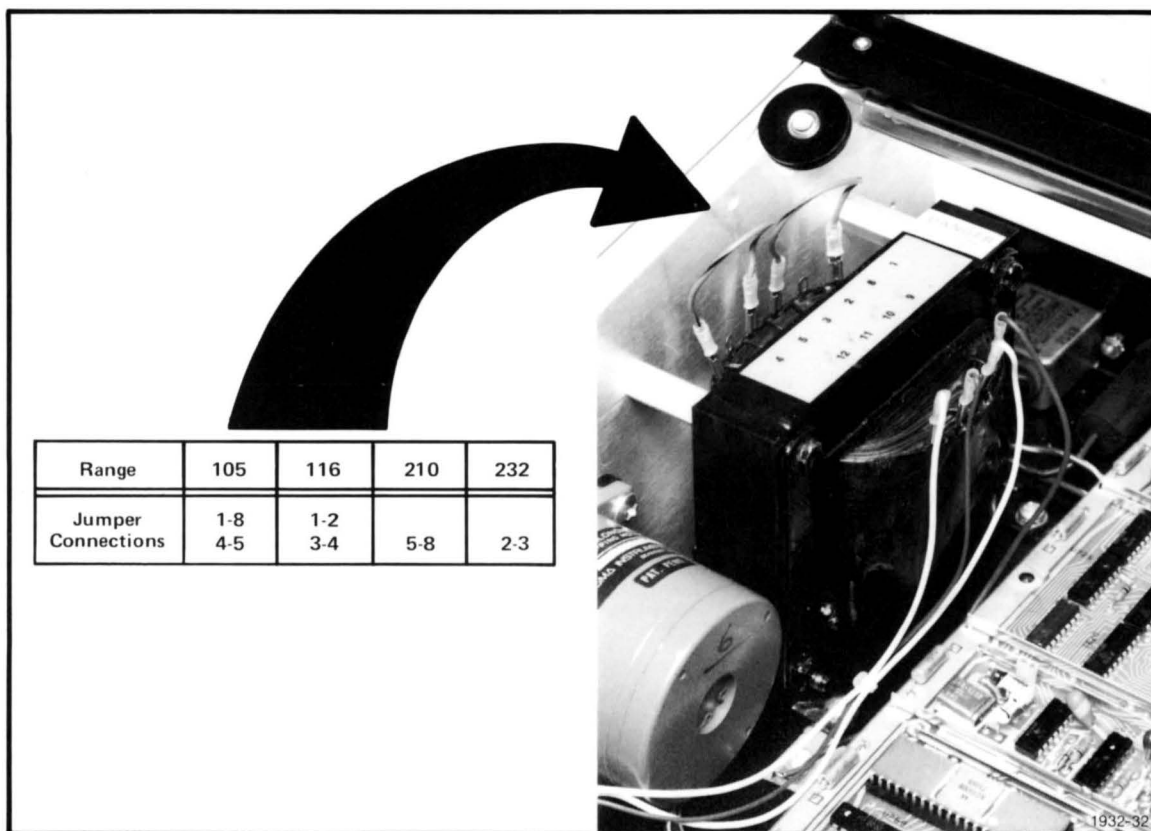

Figure C-2. Line Voltage Selection.
3. **Set** the jumpers on the transformer appropriate to the voltage range measured in Step 2. The transformer location, selectable ranges, and jumper positions for the various line voltage ranges are shown in Figure C-2.